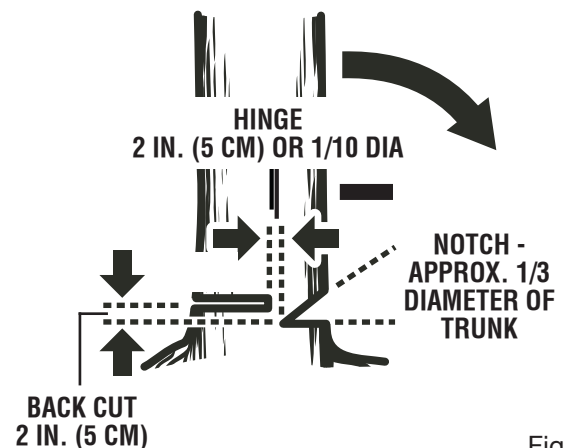

Fig. 15
- **Notched Undercut.** Cut a notch about 1/3 the diameter of the tree, perpendicular to the direction of fall. Make the cuts of the notch so they intersect at a right angle to the line of fall. This notch should be cleaned out to leave a straight line. To keep the weight of the wood off the saw, always make the lower cut of the notch before the upper cut. *See Figure 15.*
- **Felling Backcut.** The backcut is always made level and horizontal, and at a minimum of 2 inches (5 cm) above the horizontal cut of the notch. See Figures 15 - 16.
- Never cut through to the notch. Always leave a band of wood between the notch and backcut (approximately 2 inches (5 cm) or 1/10 the diameter of the tree). This is called "hinge" or "hingewood." It controls the fall of the tree and prevents slipping or twisting or shoot-back of the tree off the stump. See Figures 15 - 16.